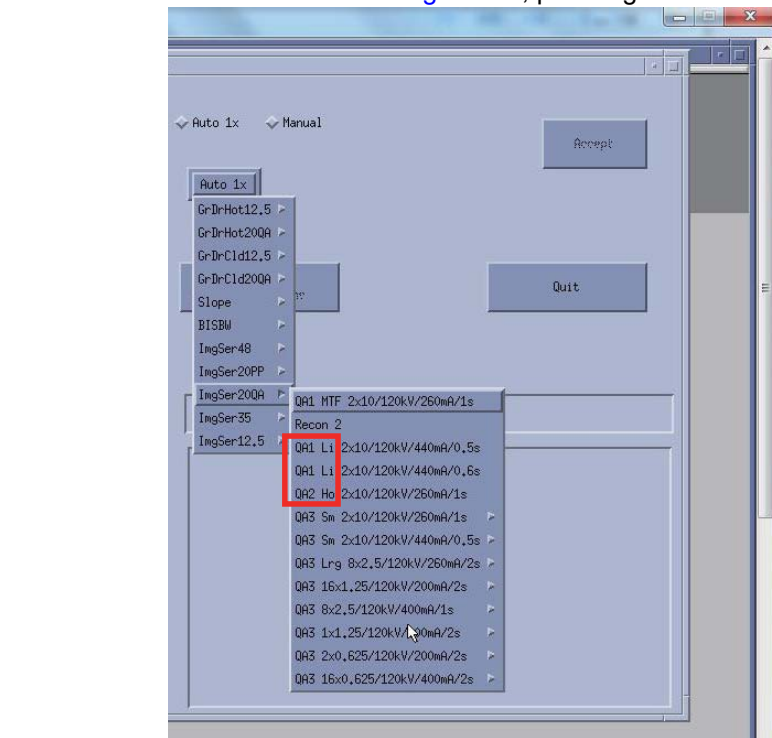

Figure 7-5 Auto 1x with QA2 Protocol
- If Scan Protocol shown as Figure 7-5, please go to Section 6.5.3